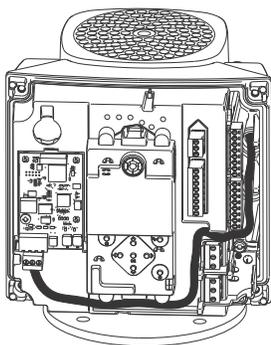

Fig. 17 Example of wire routing
8. Route the wires for the CIM module. See the example in fig. 17.